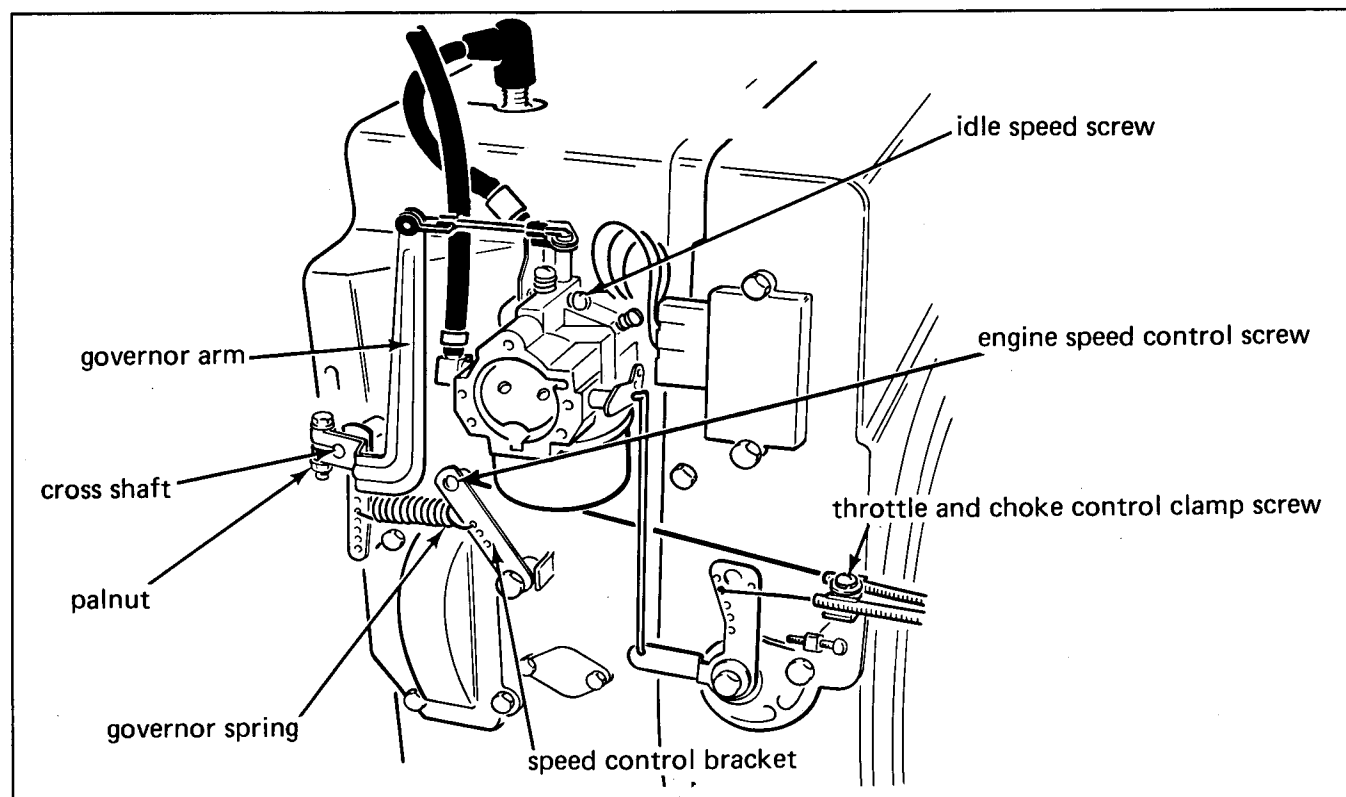

Figure 1
1. Pull governor arm away from carburetor as far as it will go (Fig. 1).